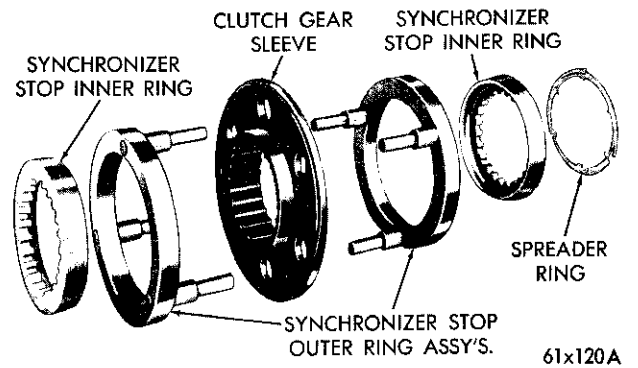

Fig. 20—A-745 Synchronizer Unit
(2) Cock the mainshaft, then remove the clutch sleeve, the outer synchronizer rings, the front inner ring and the 2-3 shift fork (Fig. 20).
(4) Place the pinion shaft in a vise (with soft jaws), then install 25 bearing rollers in the cavity of the shaft. Coat the bearing rollers with heavy grease, then install the bearing retaining ring in its groove.
(5) Install the third gear inner stop ring, (Fig. 20), in the third gear outer stop ring. Guide the drive pinion through the front of the case and engage the inner stop ring with the clutch teeth, then seat the pinion bearing.